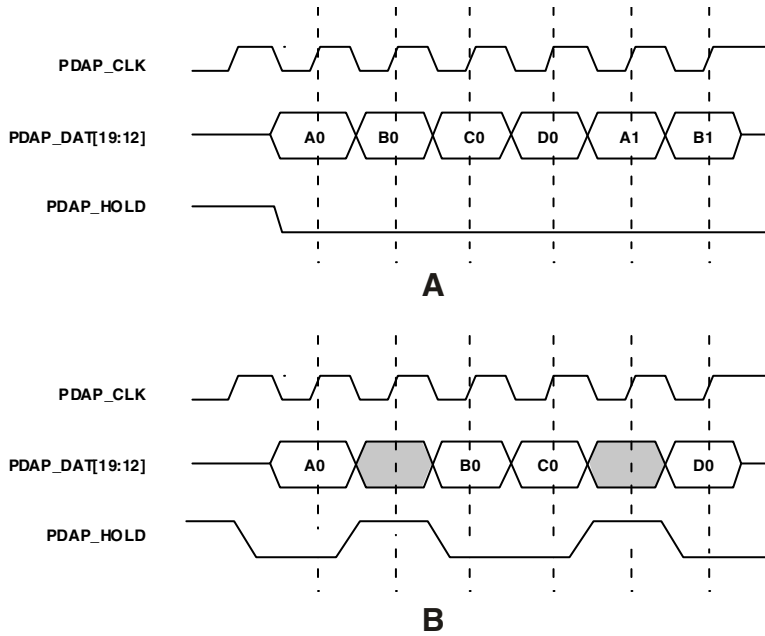
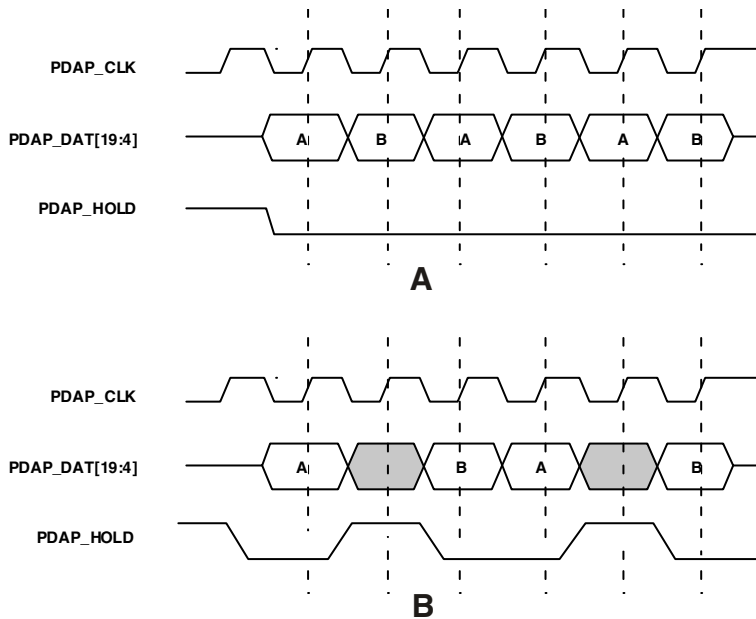

Figure 11-8. Hold Timing for Four 8-bit Words to 32 bits (Mode 00)
Figure 11-9. Hold Timing for Two 16-bit Words to 32 bits (Mode 10)
Figure 11-8 shows the affect of the hold input (B) for four 8-bit words in Packing Mode 00, and Figure 11-9 shows the affect of the hold input (B) for two 16-bit words in Packing Mode 10.